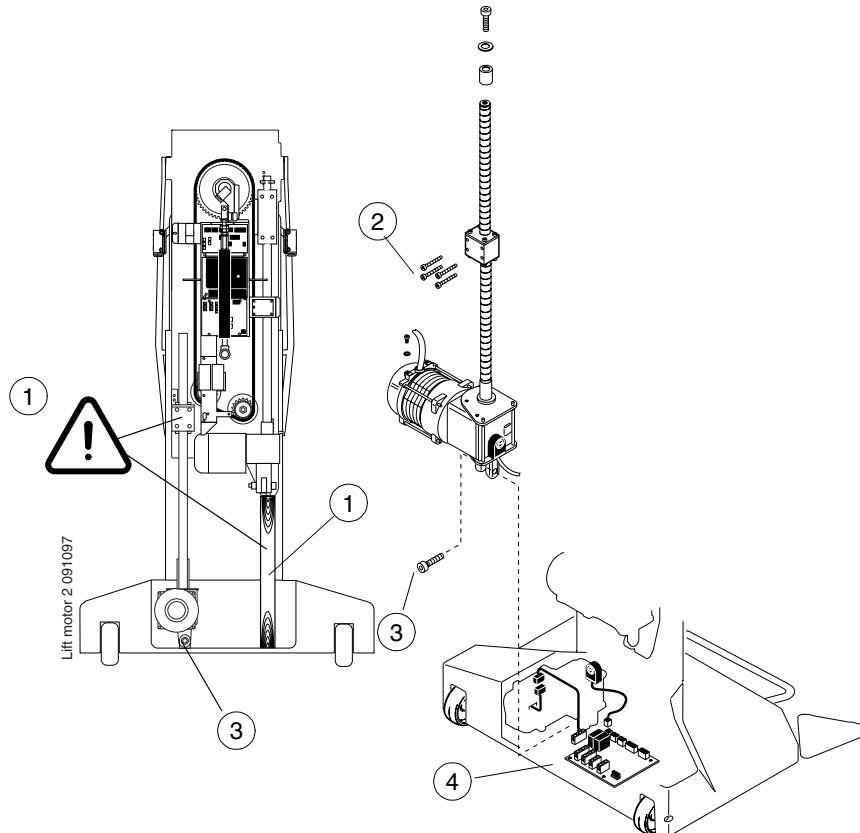

Figure H.31
- a) Place a board in right length between the C-arm rotation motor and the base (Fig. H.31, 1).
- b) Unscrew the Lift motor worm screw nut's screws (Fig. H.31, 2).
- c) Unscrew the Lift motor screw and nut (Fig. H.31, 3).
- d) Disconnect the Lift motor and the Pulse detector cables from the Base PCB (Fig. H.31, 4).